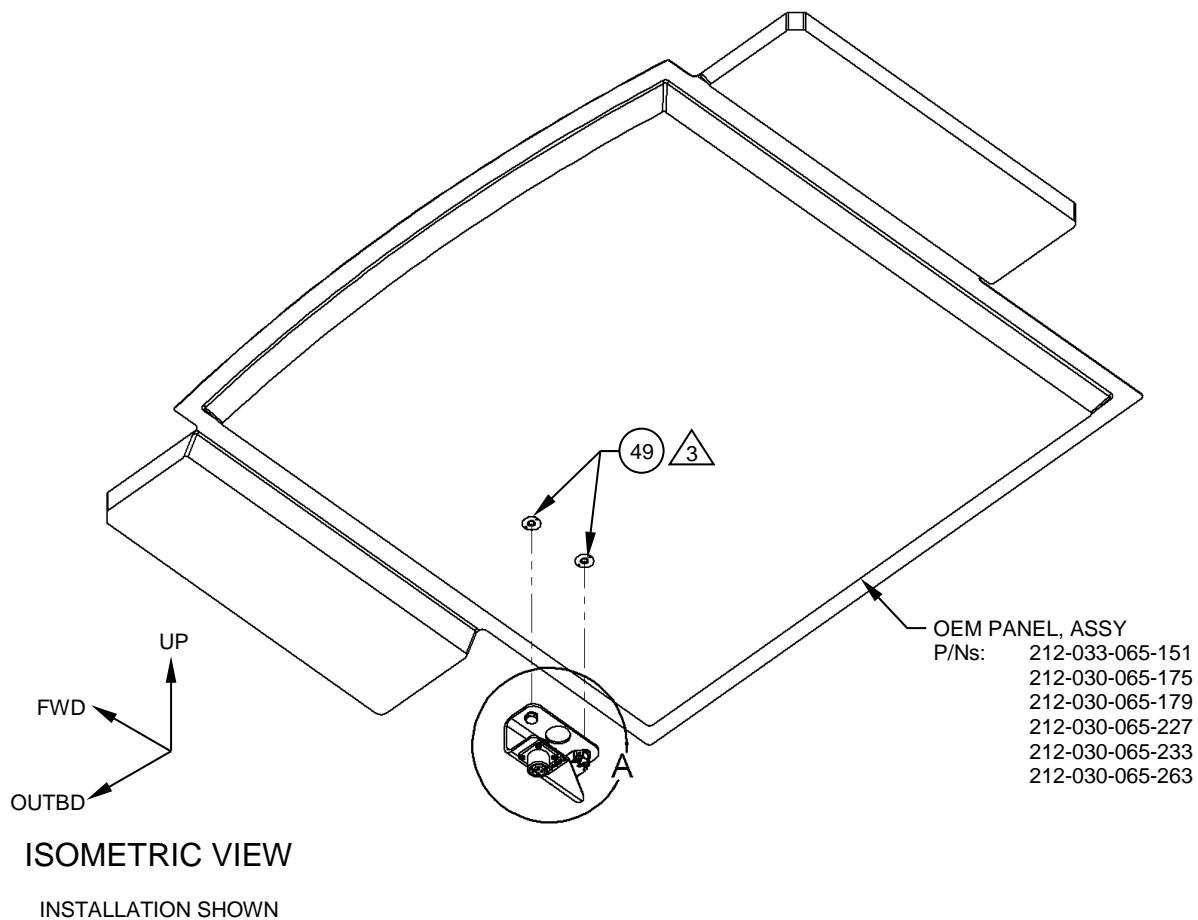

Figure 10
21. Install the inserts (Item 49) in the lower side of the OEM inverter bay panel assy as per standard practices outlined in Bell Structural Repair Manual BHT-ALL-SRM. Reference Figure 10.
22. Install the Bracket Assy (Item 50) with the supplied hardware as shown. Reference Figures 10 & 11.